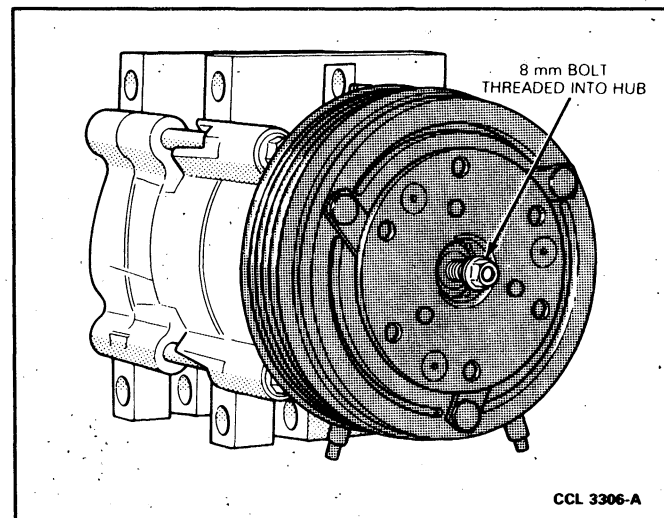

FIG. 6 Removing Clutch Hub with 8 mm Bolt
2. Pull clutch hub and shims from compressor shaft. If hub cannot be pulled from compressor shaft, screw an 8 mm bolt into the shaft hole of the clutch hub to force the hub from the shaft (Fig. 6).